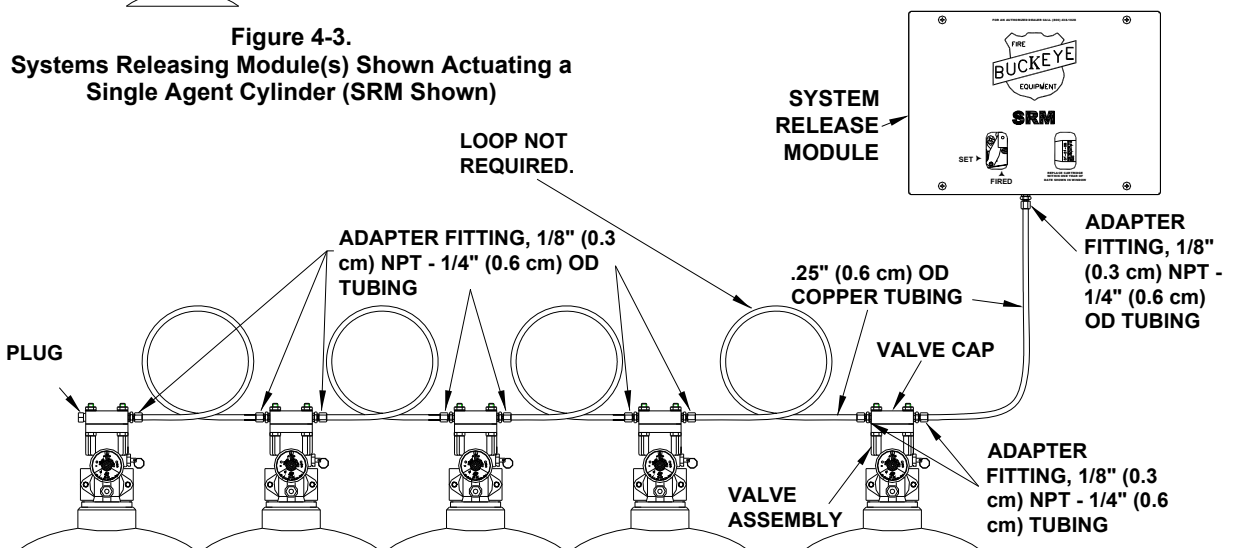

Figure 4-4.
1. The (4) mounting screw holes in the bottom of the Systems Releasing Module(s) must be filled. The Systems Releasing Module(s) Connection Kit includes four (4) 1/4 (0.6 cm)-20 x 7/8" (2.2 cm) socket head screws to accomplish this. See **Figure 4.4**.